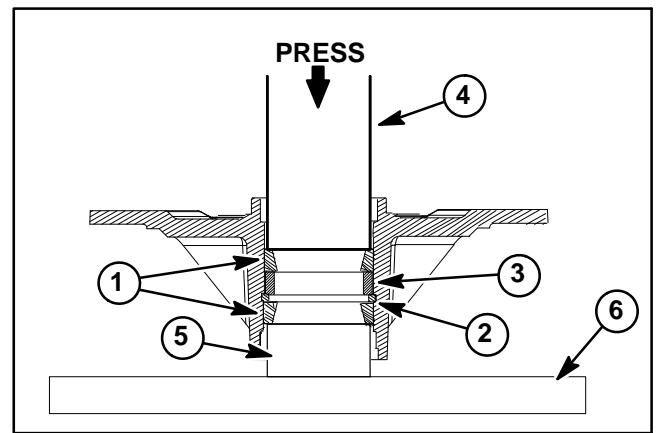

Figure 12
3. Using an arbor press, push the bearing cups into the top and bottom of the spindle housing. The top bearing cup must contact the outer spacer previously installed, and the bottom bearing cup must contact the snap ring. Make sure that the assembly is correct by supporting the first bearing cup and pressing the second cup against it (Fig 12).